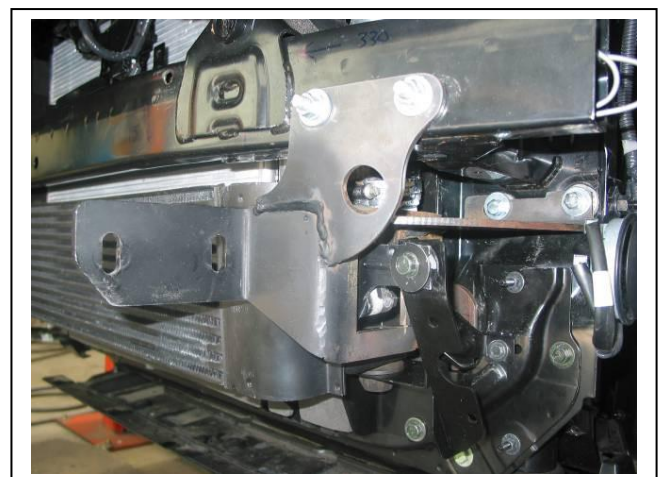

Figure 6 – Mount fitted on vehicle body
11. Fit ECB Steel mounting brackets to radiator support panel using M8 x 40mm bolts, spring washers and flat washers (supplied). Place 30mm Steel washers between top holes in mounts and vehicle. **FINGER TIGHTEN ONLY. See figures 6 and 7. NOTE:** Intercooler mount bracket protrudes through opening in centre of ECB Steel mount brackets.